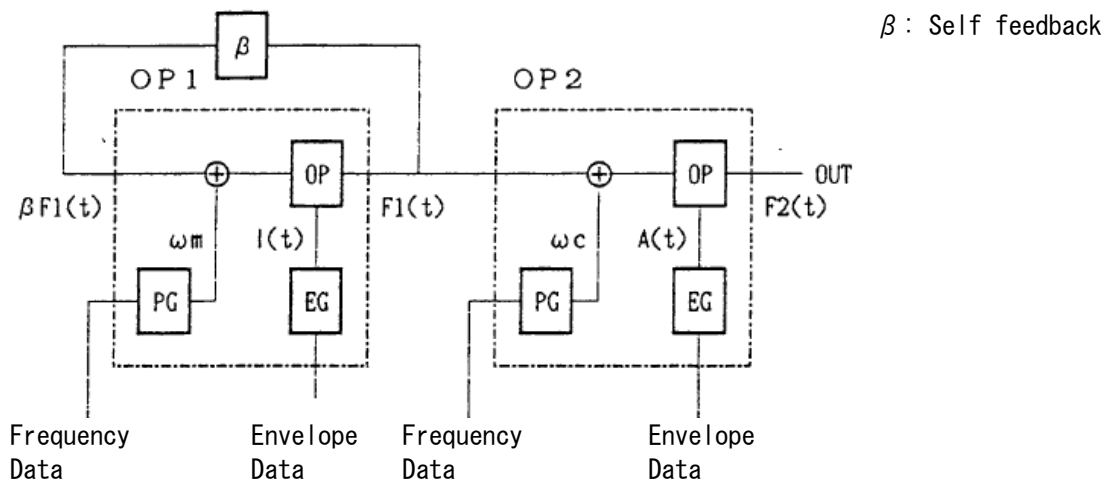

Figure 2-2: Two operator FM
Figure 2-2 is a block chart of two operators FM that is the basic configuration of FM method.
In Figure 2-2, β is a return rate of the self feedback. The self feedback is a method to feed back the output of modulator as a modulation input. The output of OP1 is shown in the expression ③.